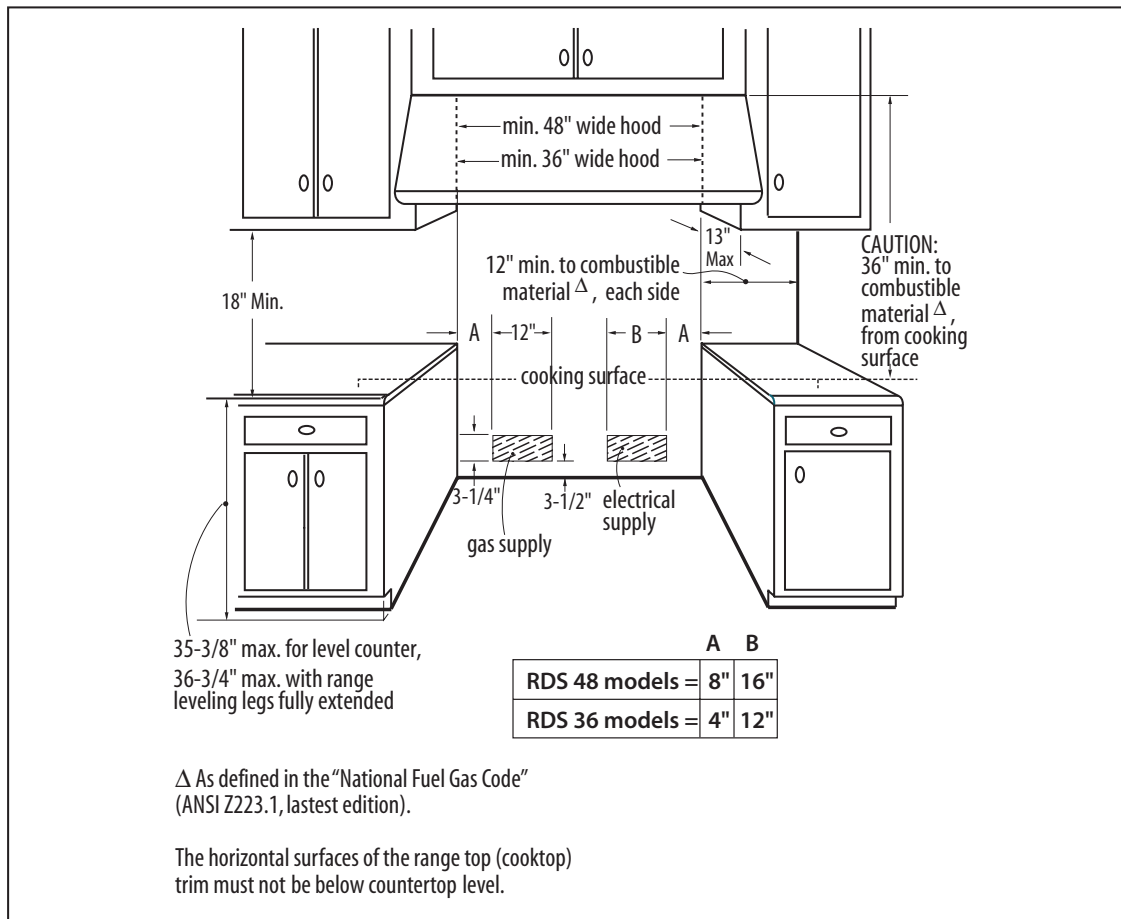
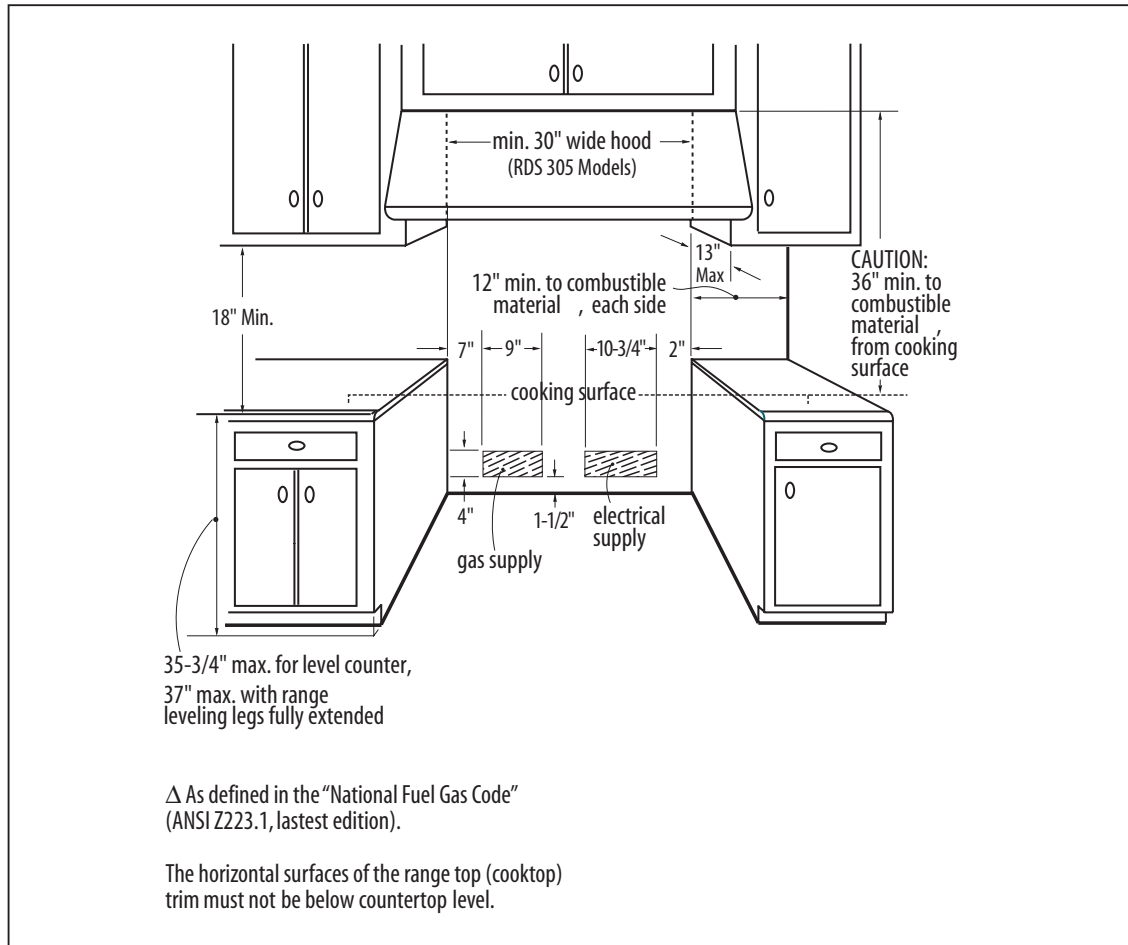

Fig. 10 RDS-36/48 Models Only
Fig. 11 RDS-305 Models Only
- 1) The range is a free standing unit. If the unit is to be placed adjacent to cabinets, the clearances shown in fig. 10 (RDS-36 & 48) & fig. 11 (RDS-305) are required. The same clearances apply to island installations.
- 3) The gas and electrical supply should be within the zones shown (fig. 10, 11 & 12).
Always disconnect electric supply cord from the wall outlet or service disconnect before servicing this appliance. Observe all governing codes and ordinances when grounding, in absence of which, observe National Electrical Code ANSI / NFPA No. 70-1990. The electrical supply must be a 120/240 volt, 3 wire (plus ground) 60 Hz single phase, 50 AMP circuit. The power receptacle must be a NEMA 14-50 device to accept the four prong plug supplied with the unit. The receptacle should be located within the area shown in fig. 10, page 11.
The electrical supply must be a 120/240 volt, 3 wire (plus ground), 60 Hz, 30 AMP circuit. The power receptacle must be a NEMA 14-50 device to accept the four prong plug supplied with the unit. The receptacle should be located within the area shown in fig. 11, page 12.